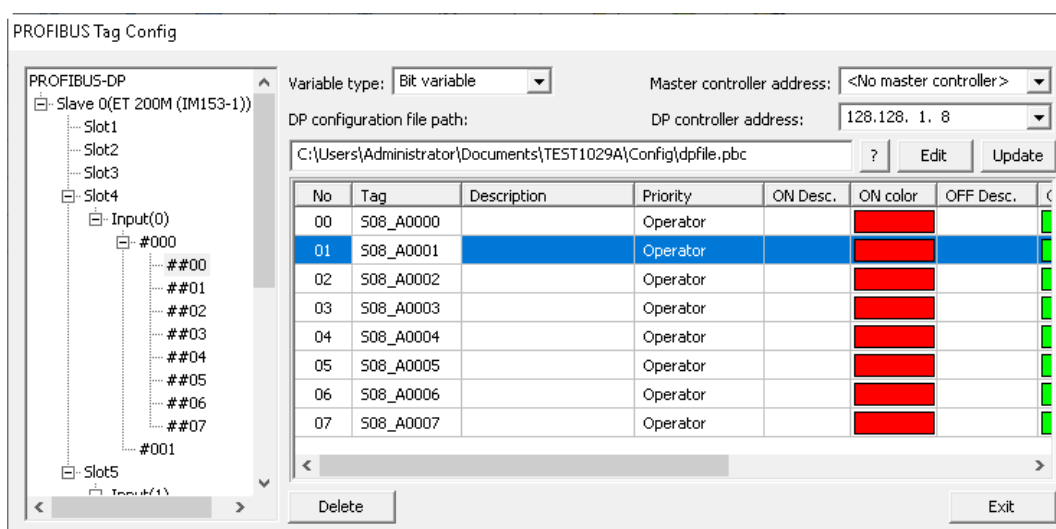

Figure 4-32 Tag configuration
4. Perform the tag configuration for all modules as shown in Figure 4-32.